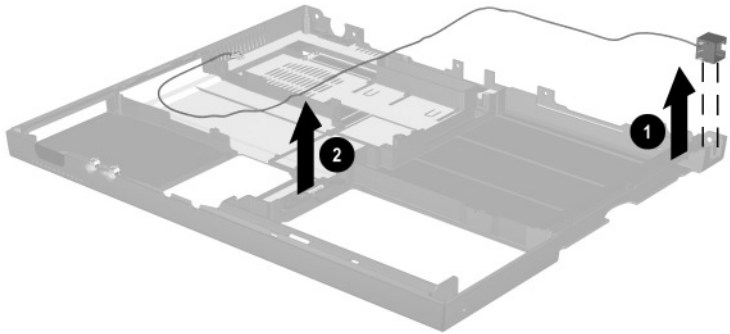

Figure 5-36. Removing the Modem Cable
3. Lift the modem connector out of the base enclosure ❶ and disengage the modem cable ❷ from the alignment clips and tabs in the base enclosure (Figure 5-36).